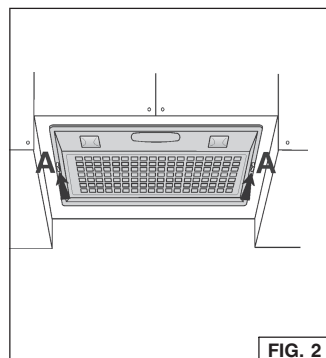
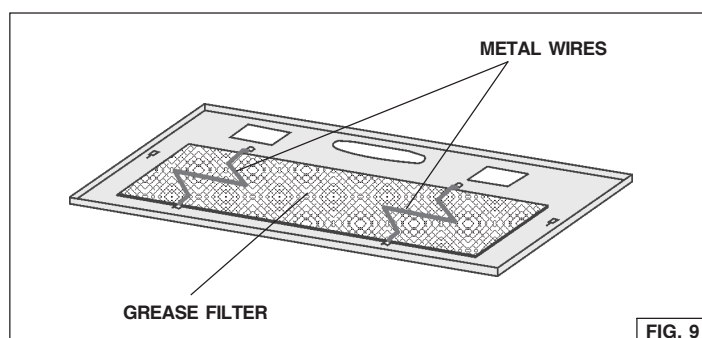

FIG. 2
FIG. 9
1. Remove the grid by moving the 2 slide fasteners "A" forward (Fig. 2).
1. Remove the metal wires (Fig. 9) and discard them.
To remove the grease filter: remove the grid by moving the 2 slide fasteners "A" (Fig. 2); remove the metal wires and then the grease filter (Fig. 9).